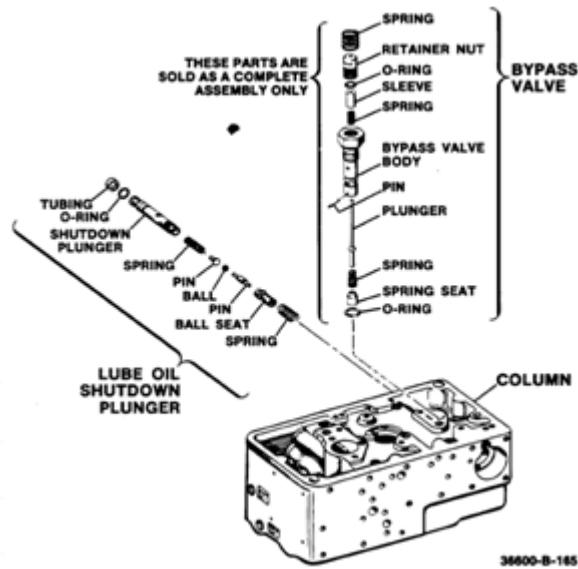

Figure 5-53. Lube Oil Shutdown Plunger and Bypass Valve
26. Clean and assemble lube oil shutdown plunger parts and install in column (Figure 5-53).
27. Clean, assemble, and install bypass valve in position as shown in Figure 5-53.